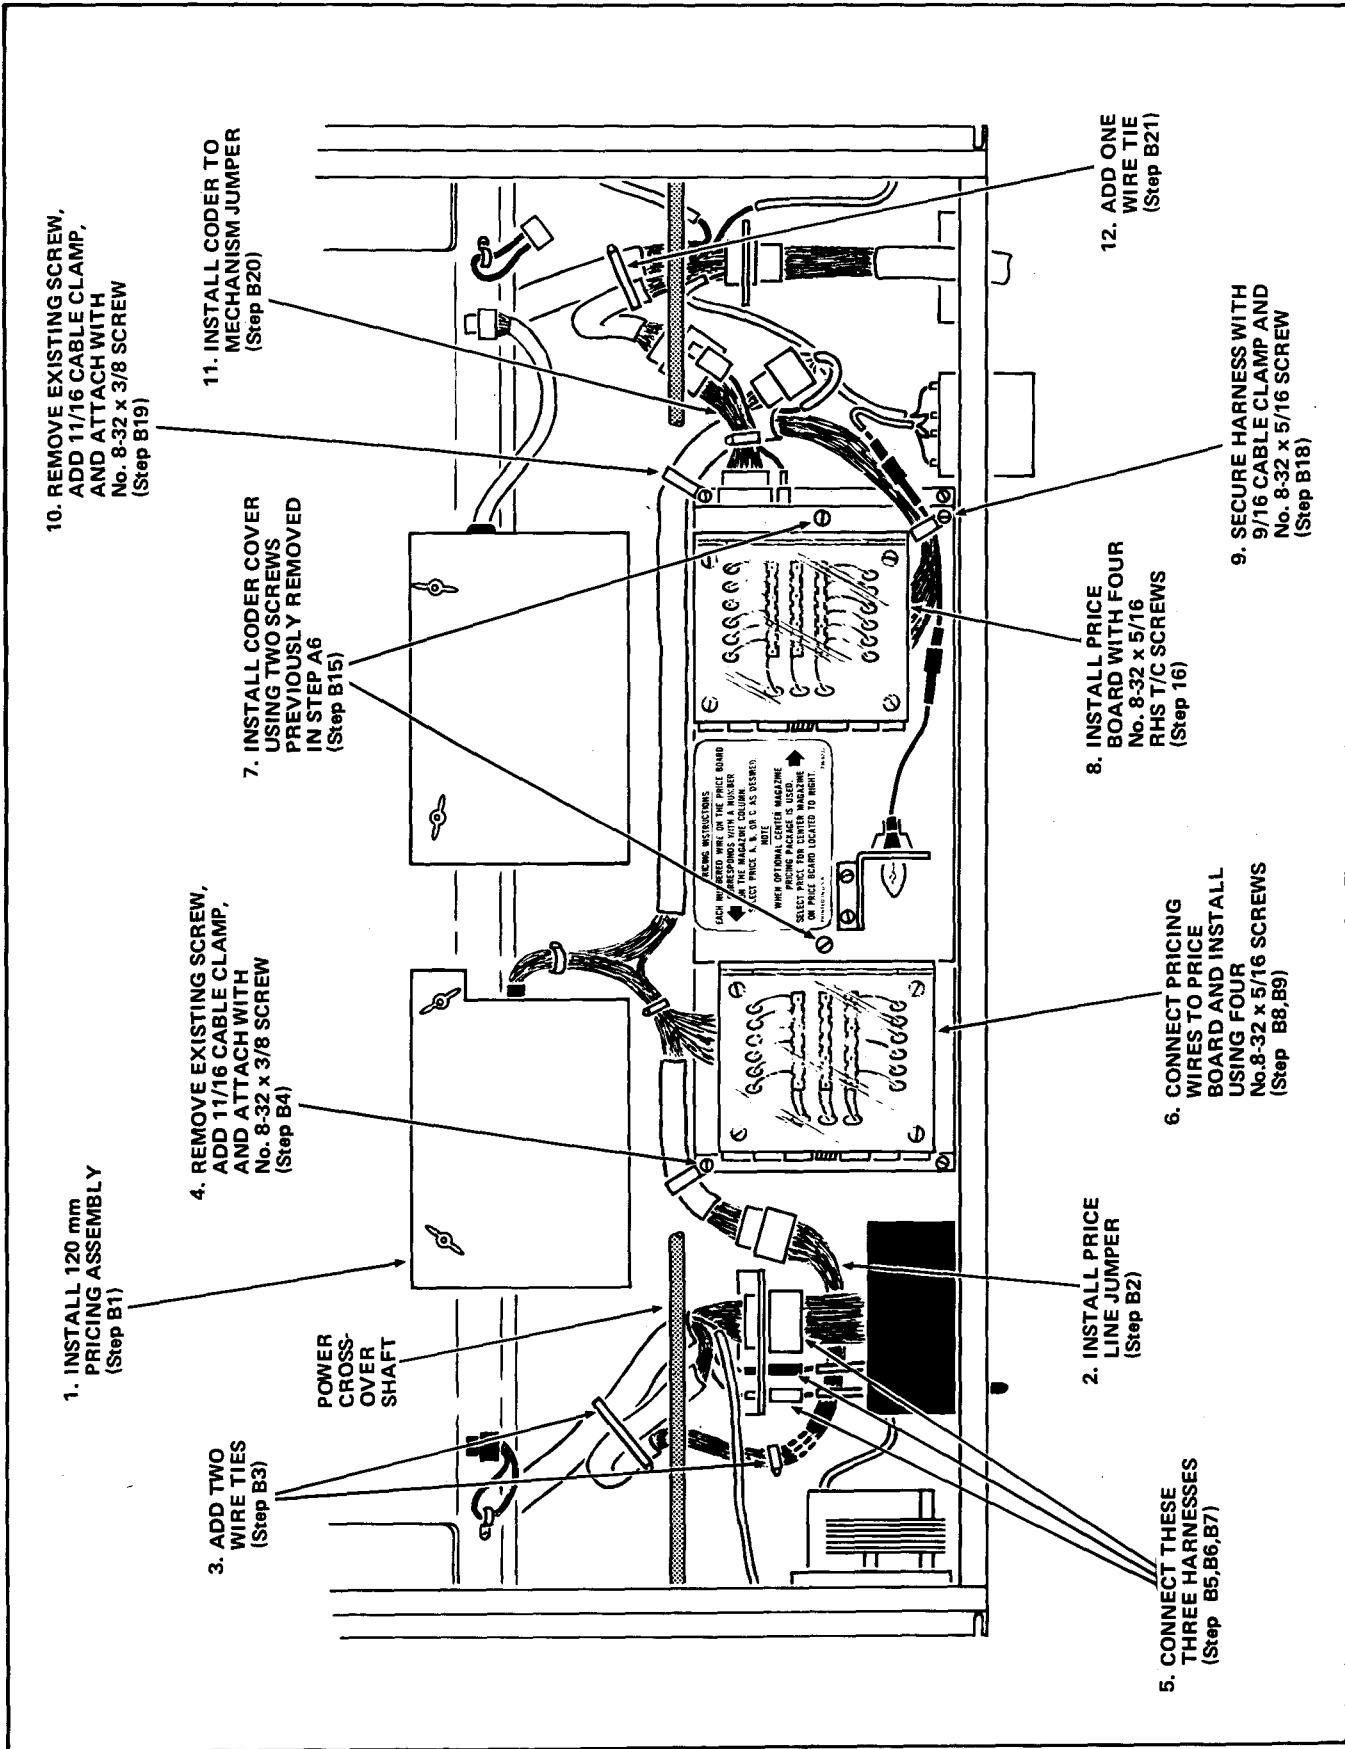

FIGURE 3
1. Install the 120 mm Pricing Assembly, Part Number 236-6233, included in the Kit, in the Delivery Mechanism by fitting the Quarter Turn Latches of the Pricing Assembly in the slots in the Switch Channel Assembly and secure by rotating the Quarter Turn Latches one quarter turn. See Figure 3.
2. Install the Price Line Jumper, Part Number 236-6182, included in the Kit, between the Harness on the 120 mm Price Assembly and the Pricing Wires of the Mechanism Harness Assembly. Match the numbered wires on the Price Line Jumper with the corresponding numbers on the Pricing Wires. See Figure 3.
3. Using two Wire Ties, Part Number 310-0054, included in the Kit, tie the Mechanism Harness Assembly as shown in Figure 3.
4. Remove the Screw from the left rear corner of the Coder Assembly and secure the Harness of the 120 mm Pricing Assembly with a 11/16 Cable Clamp, Part Number 310-6156 and No.8-32 x 3/8 Round Head Self Tapping Screw, Part Number 9900-063, both included in the Kit. See Figure 3.
5. Connect the Door Harness to the Mechanism Harness Assembly and attach the left Strain Relief Bracket to the Front Spacer Sidewall Pan with two No.8-32 x 5/16 Round Head Thread Cutting Screws removed in Step A-8. See Figure 3.
6. Connect the Vend Motor Harness to the Mechanism Harness Assembly. See Figure 3.
7. Connect the Vend Counter Harness to the Mechanism Harness Assembly. See Figure 3.
8. Fit the Pricing Wire on the Harness of the 120 mm Pricing Assembly thru the slots from the bottom of the Price Board and Tape Assembly and connect the numbered Pricing Wires to the corresponding numbers in the Price Board and Tape Assembly. See Figure 3.
9. Attach the Price Board and Tape Assembly to the Price Board Channels with four No.8-32 x 5/16 Round Head Thread Cutting Screws removed in Step A-11. See Figure 3.
15. Install the Coder Cover on top of the Coder and attach with two No.8-32 x 5/16 Round Head Thread Cutting Screws removed in Step A-6. See Figure 3.
18. Connect one Lamp Assembly Connector of the 120 mm Pricing Assembly Harness to the Lamp Assembly and the other Lamp Assembly Connector to the Mechanism Harness Assembly. Secure the Harness to the top of the Coder Cover with a 9/16 Cable Clamp, Part Number 310-6144 and a No.8-32 x 5/16 Round Head Thread Cutting Screw, Part Number 9900-174, both included in the Kit. See Figure 3.
19. In the right rear corner of the Coder Assembly secure the Harness on the 120 mm Pricing Assembly with a 11/16 Cable Clamp, Part Number 310-6156, and a No.8-32 x 3/8 Round Head Self Tapping Screw, Part Number 9900-063 both parts included in the Kit. See Figure 3.
20. Attach the Coder to Mechanism Jumper, Part Number 236-6183, included in the Kit, to the Coder Assembly and Mechanism Harness Assembly as shown in Figure 3.
21. Tie the Mechanism Harness Assembly under the Power Cross Over Shaft and away from sharp edges, with a Wire Tie Part Number 310-0054, included in the Kit, as shown in Figure 3.